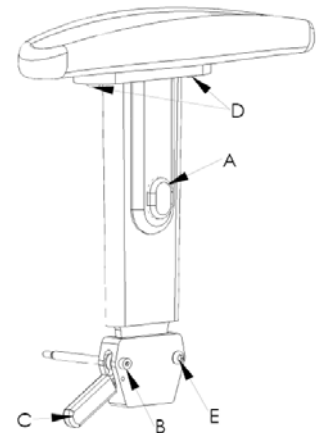

Fig. 3
- a. Attach the T-style arm rest receiver using the shoulder bolt (item B in Figure 3) and the button-head cap screw (item E in Figure 3).
- a. Press up on the locking lever, indicated by C in figure 3, and lift the T-style arm straight up and out of the socket.
- i. Remove the two screws that secure the arm pad to the arm tube (item D in Figure 3).
- i. Depress button A, indicated in figure 3, then pull up or push down on the T-style arm until desired height is reached.